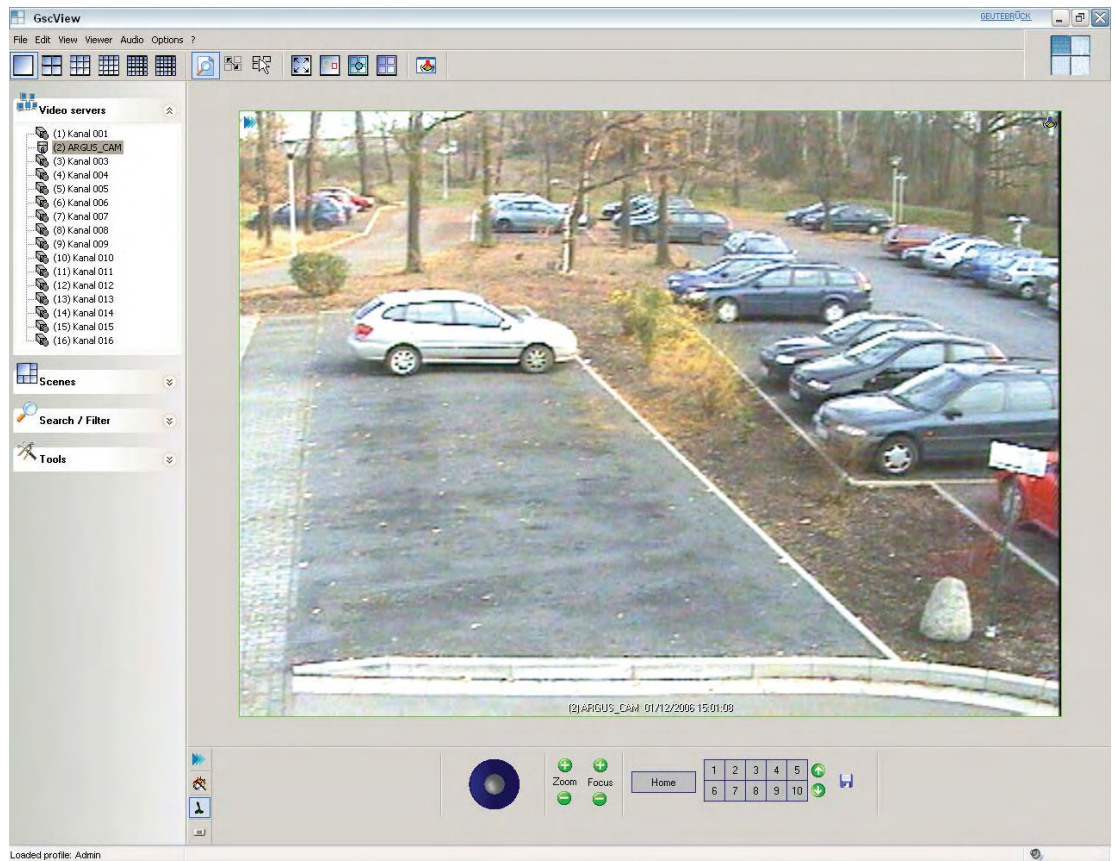

Figure 9-9: GscView – telecontrol
- Select the camera of your pan/tilt system as a source and open it in a GscView viewer. In the example in figure 9-9, this is the second camera, "ARGUS_CAM".